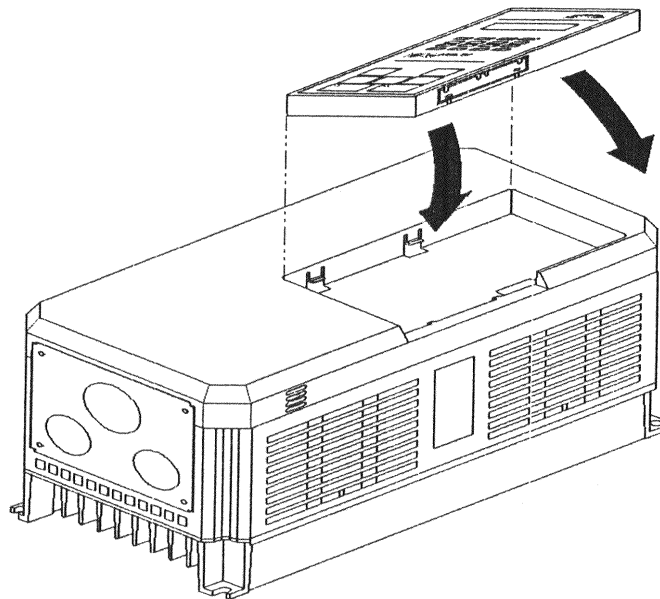

Figure 3-8: Cover and Keypad
11. Refer to Figure 3-8 to insert the keypad.